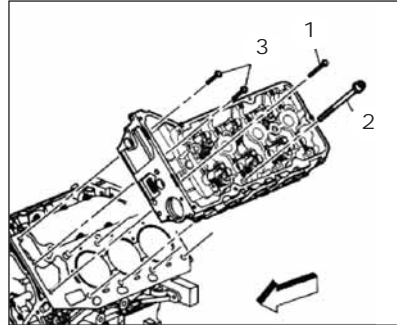

Figure 5 Cylinder head M6 (numbers 1 and 2) bolt locations on GM 3.5L
3) Install new M11 cylinder head bolts and finger tighten (number 2 in **Figure 5**, page 10).
4) Install the M6 cylinder head bolts at the front of the cylinder head. Install the longer M6 cylinder head bolt (number 1 in **Figure 5**) in the outboard location as shown. Install the two shorter M6 cylinder head bolts (number 3 in **Figure 5**) in the locations shown.
9) Tighten the long M6 cylinder head bolt (number 1 in **Figure 5**) to 106 in.lbs. (12 Nm).
10) Tighten the two shorter M6 cylinder head bolts (number 3 in **Figure 5**) to 106 in.lbs. (12 Nm).